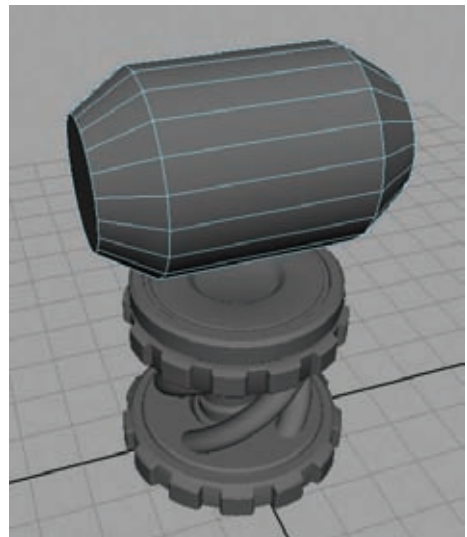

Figure 8.9
2. Select the two cap faces and extrude them out about a full unit's length. Scale them inward to taper the sides of the capsule as in Figure 8.9.